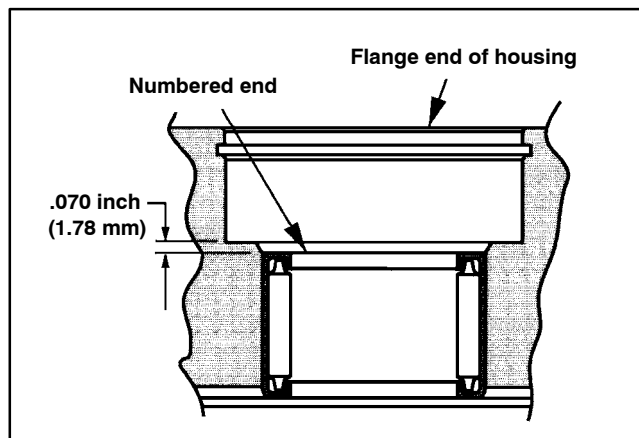
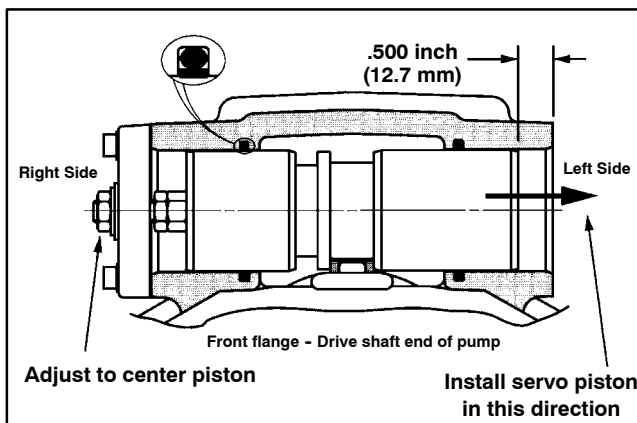

Figure 44
Figure 46
2. Check the bearing (39) (press fit) in pump housing (19). If needles remain in cage, move freely, and setting at the dimension shown in Figure 44, bearing removal is not required.
2. If necessary, press new bearing into pump housing to dimension shown in Figure 44 with the numbered end of bearing outward.
3. Install the two new seal sub-assemblies (37) into the servo piston cavity of pump housing (19).
4. Screw the cover plate (10) onto the servo piston assembly (7). Install new cover plate gasket (33) in place on pump housing. Install servo piston assembly (7) and cover plate (10) into servo piston bore in right side of housing (Fig. 46). Retain cover plate with four washers (31) and socket head screws (5). Torque screws from 40 to 48 in-lb (4.5 to 5.4 N-m). To obtain neutral, centering the servo piston assembly is required. Measure in from the left side and set servo piston .500 in. (12.7 mm) from surface of housing servo bore as shown in Figure 46.